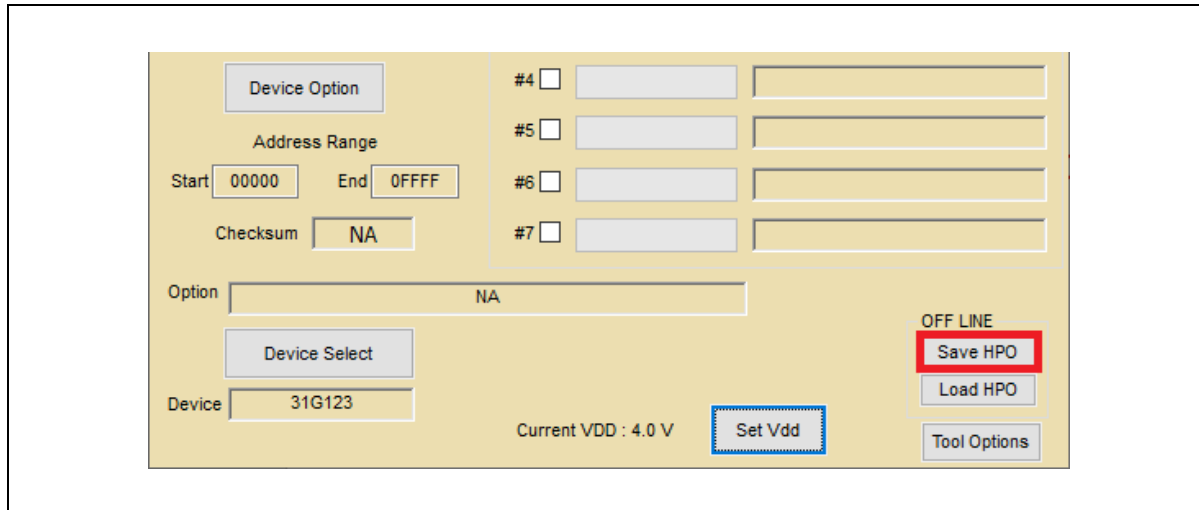

Figure 29. Save HOP (OFF LINE)/Get Code Checksum
- b. Click the 'Save HPO' button that is circled in Figure 29. In offline mode, the 'Save HPO' button is disabled.